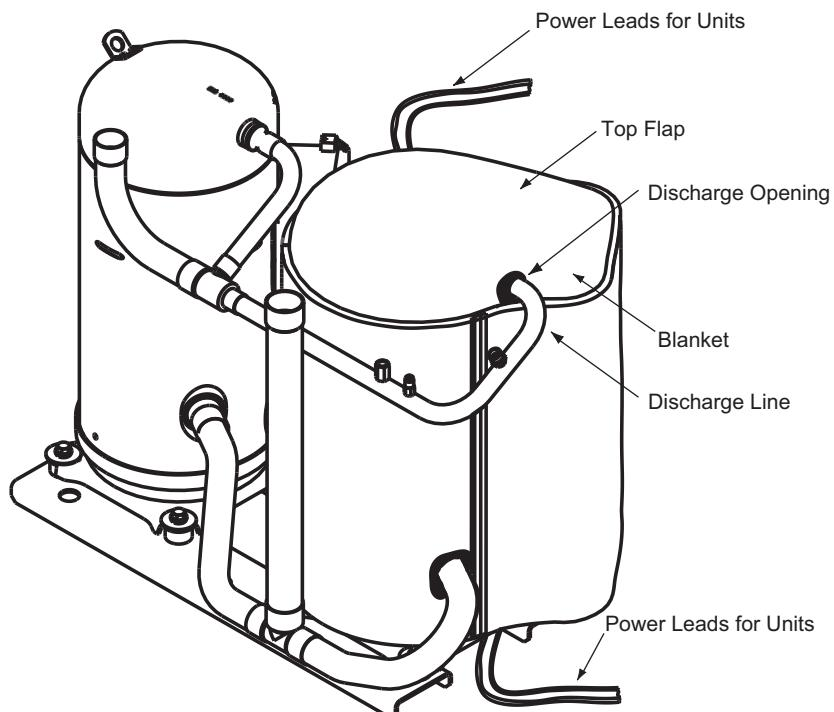

Fig. 5 — Attach Top Flap of Blanket with Hook and Loop Strip for Single Compressors
7. Attach top flap of blanket with the hook and loop strips while aligning the discharge opening with the discharge line. See Fig. 5.